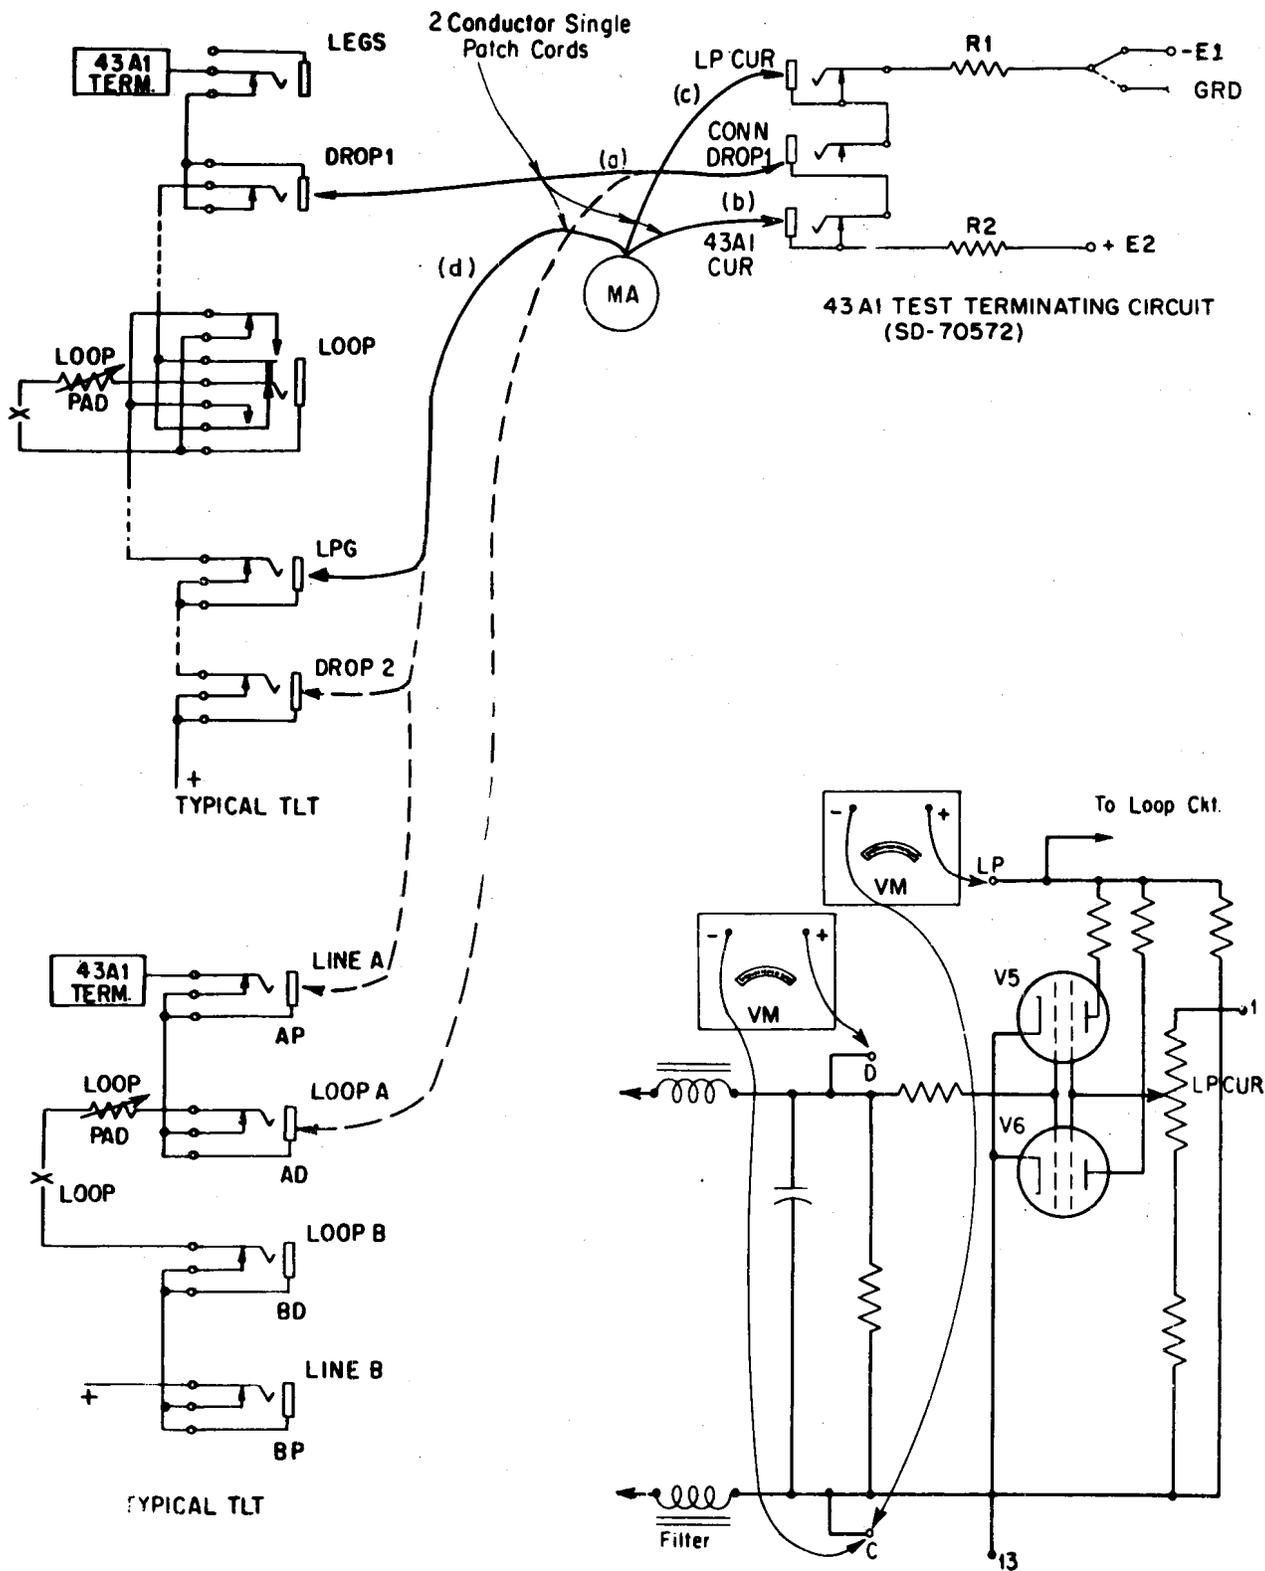

Fig. 5—Test I Connections
Connect the positive (+) VOM lead to pin jack LP and the negative (−) VOM lead to pin jack C (see Fig. 5).
Refer to Fig. 5 and connect patch (a) between the CONN DROP 1 jack of the 43A1 test terminating circuit and the DROP 1 (or LOOP A) jack in accordance with local procedures.
- 5 Patch the dc milliammeter to the 43A1 CUR jack of the 43A1 test terminating circuit [patch (b) of Fig. 5].
- 9c Disconnect the dc milliammeter from the 43A1 CUR jack, connect it to the LP CUR jack of the 43A1 test terminating circuit [patch (c) of Fig. 5], and record the meter indication.
10c Disconnect the dc milliammeter from the LP CUR jack of the 43A1 test terminating circuit and connect it to the TLT LPG DROP 2, or LINE A jack [patch (d) Fig. 5].